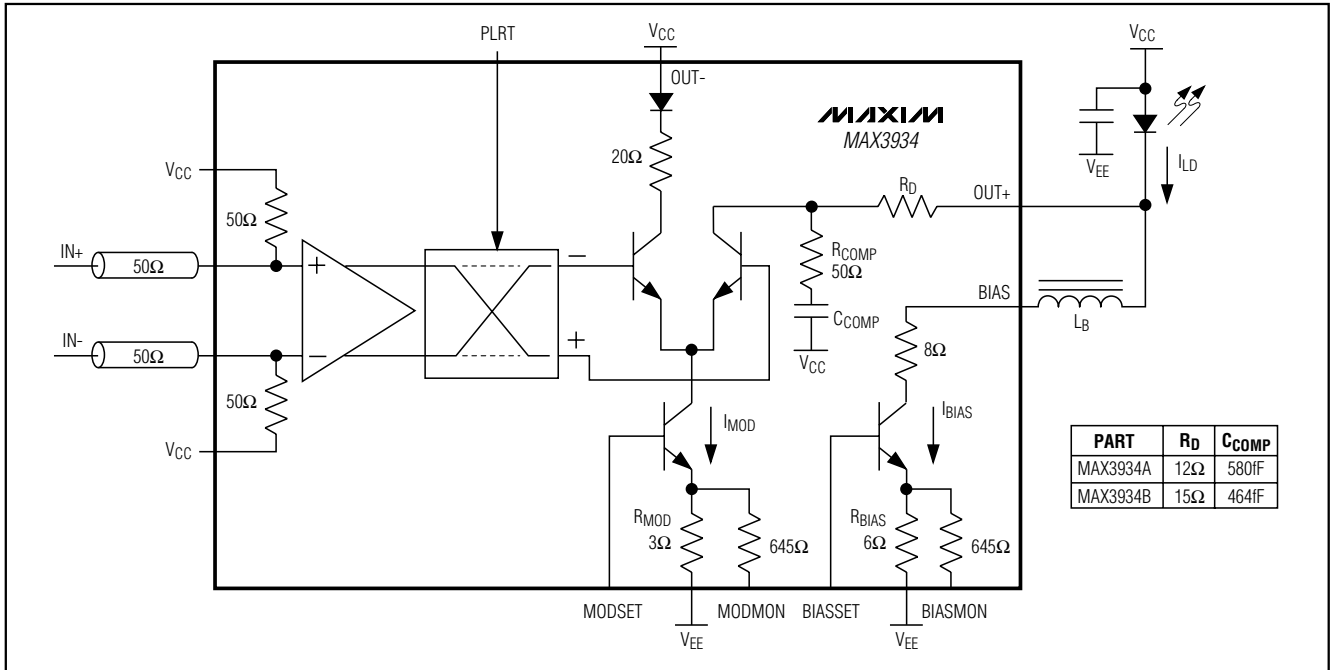

Figure 3. Functional Diagram
**Note 5:** The minimum voltage at the OUT+ pad is  $V_{EE} + 1.65V + (I_{MOD} \times R_D)$  (Figure 3).
The MAX3934 laser driver consists of two main parts, a high-speed modulation driver and a laser-biasing block (see Figure 3). The circuit operates from a single +5V or -5.2V supply. When operating from a +5V supply, connect all VCC pads to +5V and all VEE pads to ground. If operating from a -5.2V supply, connect all VEE pads to -5.2V and all VCC pads to ground.